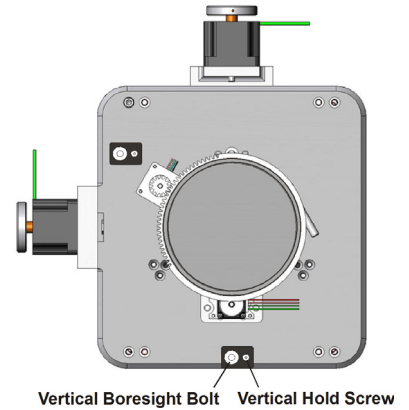

Figure 2-42 Vertical Boresight
1. Loosen the **Vertical Hold Screw**. See **Figure 2-42**.
8. Adjust the **Vertical Hold Screw** to lock the lens mount in place. Check boresight again. See **Figure 2-42**.